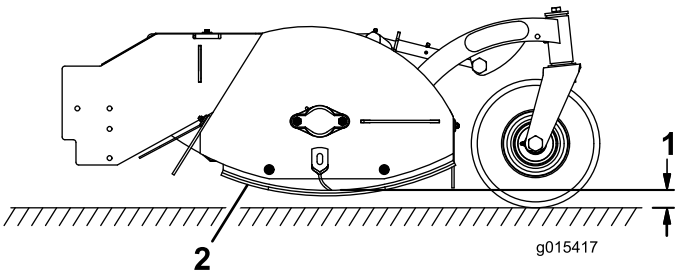

Figure 4
3. Loosen the 2 bolts and 2 nuts securing an anti-scalp skid and raise or lower it so that they are lower than the blades but not touching the ground (Figure 4).